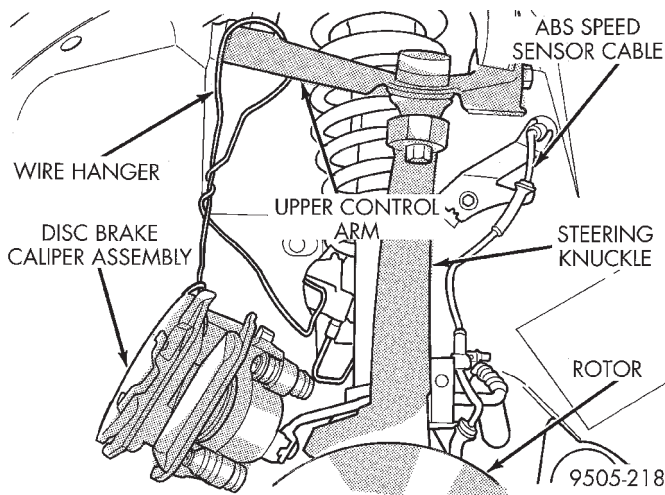

Fig. 5 Correctly Supported Brake Caliper
(7) Support brake caliper/adaptor assembly using a wire hook (Fig. 5). **Do not support assembly by the brake flex hose.**